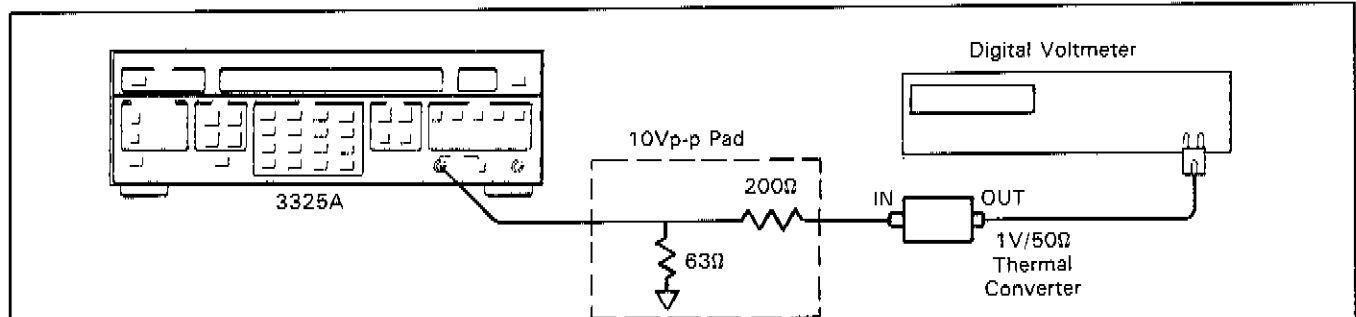

Figure 5-2a. Amplitude Flatness Adjustment (10Vp-p Pad).
b. Connect the 3325A signal output (through the 10Vp-p pad and thermal converter) to the digital voltmeter (see Figure 5-2a).